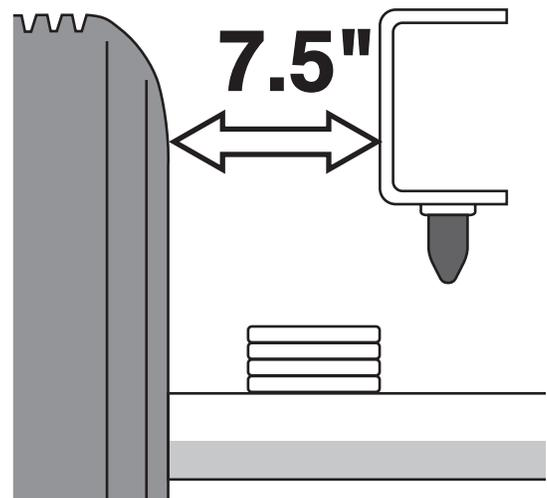

Fig. 3
2. Measure the distance between the frame and the tire. This kit requires a minimum of 7.5" (191mm) of clearance for a fully inflated air spring (Fig. 3).